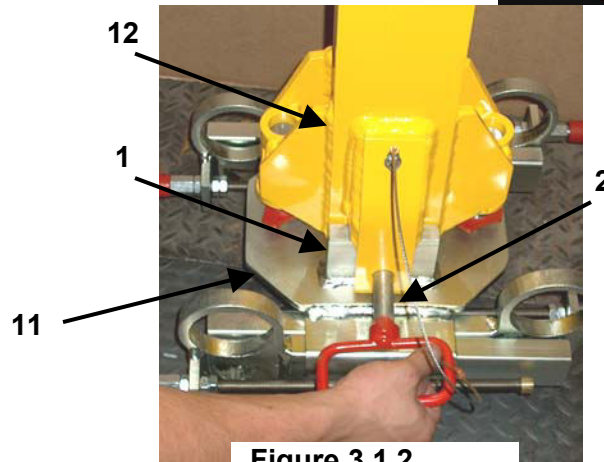

Figure 3.1.2
Step 3: As shown in Fig. 3.1.2, insert the 14' Portable Fall Arrest Post (12) between the base plates tabs (1) and visually align the 3/4" holes as shown in Fig. 3.1.2. Secure the Post by inserting the 3/4" pin (2) through the base plate tabs (1) and sleeve (12). Make sure the pin fully engages both the base plate tabs (1) and the entire post to lock the post firmly in place.